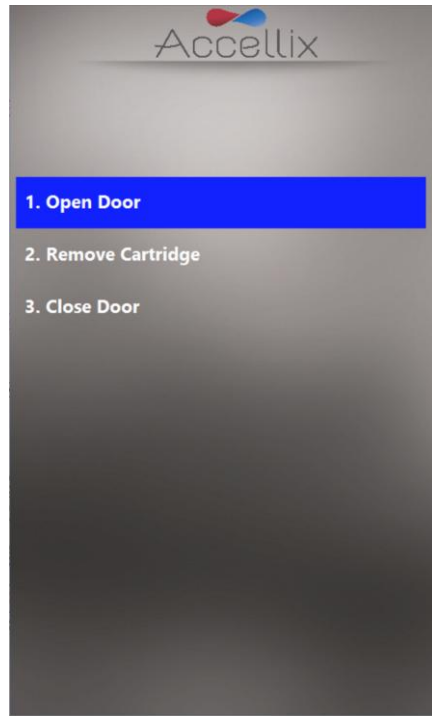

Figure 46: Remove Cartridge screen
14. On-screen instructions (Figure 46) prompt the user to open the instrument door, remove the cartridge, and finally to close the instrument door.